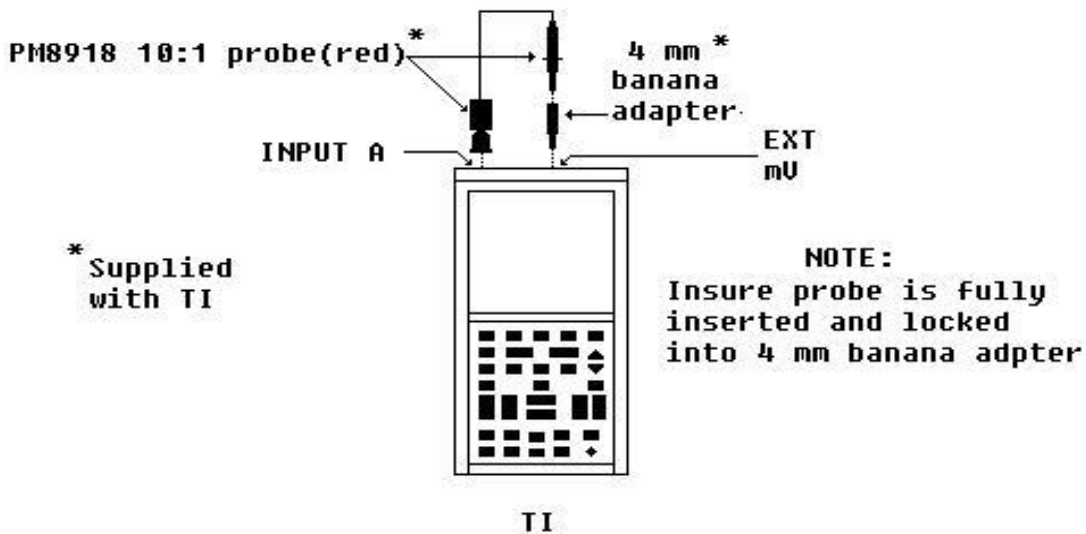

Figure 14. 10:1 probe for INPUT A.
- (63) Voltage ramp and 1:1 probe for INPUT A by pressing pushbuttons sequence (a) through (d) below:
- (64) Displayed "Calibration has been completed successfully", then press (F1) CLOSE.
- (65) Disconnect BNC cable from INPUT A and reconnect it to INPUT B.
- (66) Select 1:1 probe for INPUT B by toggling ▲ or ▼ to display/highlight (▲ or ▼CAL 22).
- (67) Press (F5) READY, then wait till display/highlight READY is not highlighted.
- (68) Displayed "Calibration has been completed successfully", then press (F1) CLOSE.
- (69) Connect equipment as shown in figure 14 below:
- (73) Disconnect PM8918 10:1 red probe from **INPUT A**.
- (74) Connect equipment as shown in figure 14, but use the PM8918 10:1 grey probe to **INPUT B** side.
- (75) Select 10:1 grey probe for **INPUT B** by pressing **▲ or ▼** to display/highlight **(▲ or ▼ CAL 20)**.
- (76) Press **(F5) READY**, then wait till display/highlight **READY** is not highlighted.
- (77) Displayed "Calibration has been completed successfully", then press **(F1) CLOSE**.
- (78) Disconnect PM8918 10:1 gray probe from TI.